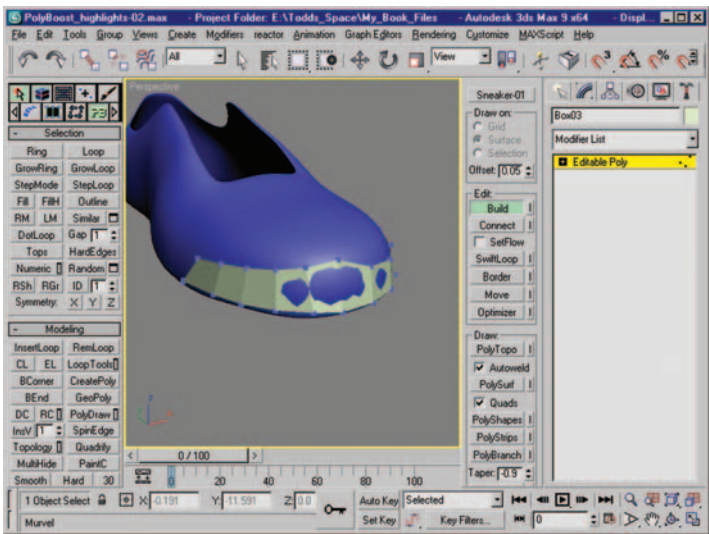

Figure 12.25 Row of polygons drawn onto existing mesh. Some edges and verts are not perfectly aligned.
29. Continue building polygons around to the other side of the sneaker. Figure 12.25 shows the resulting new polygons. Some verts and edges aren't perfectly aligned. Luckily, a simple key combination activates a move function while you are still using the Build tool.